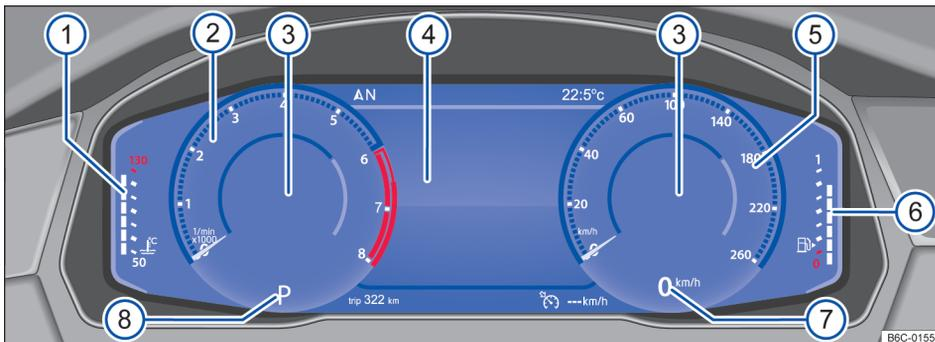

Fig. 9 Active Info Display on the dash panel (version 1).
Explanations to the instruments → Fig. 9:
According to the radio version and the selected information profile, additional information is shown at the centre of the round instruments → Fig. 9 ③ of the Active Info Display. The following information profiles can be selected: